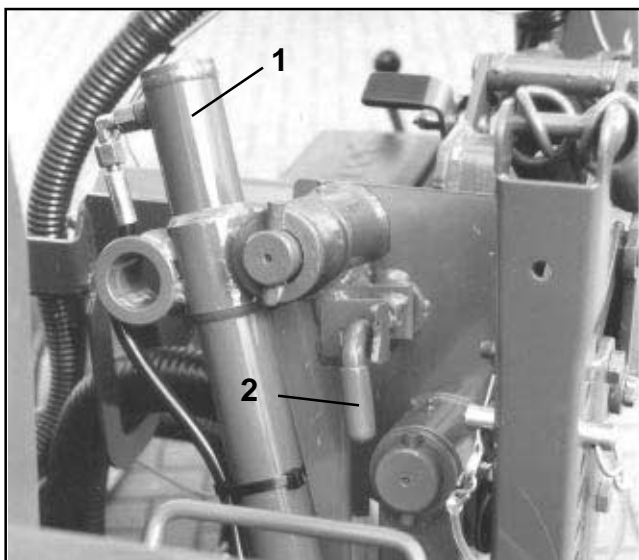

Fig. 7.3
- Raise the outer sowing units on the ED 451-K with the aid of the hydraulic cylinder (7.3/1) to the transport position and lock in position by means of a bolt (7.3/2). When **locked** the bolt (7.3/2) remains in the position indicated in Fig 7.3.